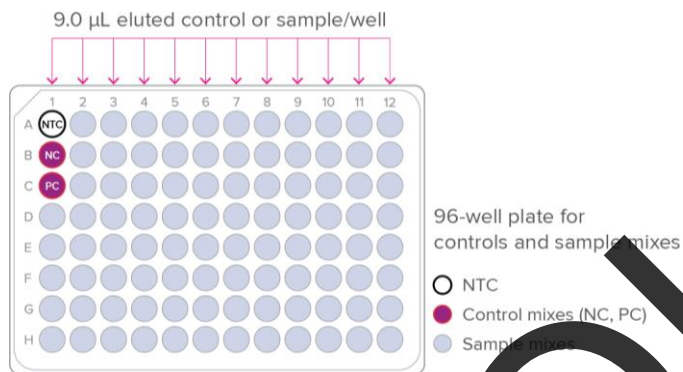

Figure 3. Controls and sample mixes pipetting map
- 4 Using an 8-channel pipette, transfer 9 μ L of eluted controls and samples to each well of the sample plate containing the binding buffer/RNasecure mix (Figure 3).